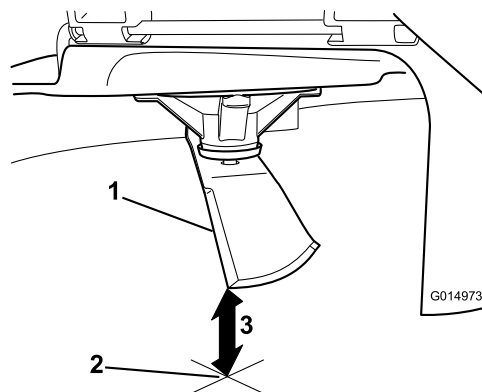

Figure 45
3. Measure from the tip of the blade to the flat surface (Figure 45).